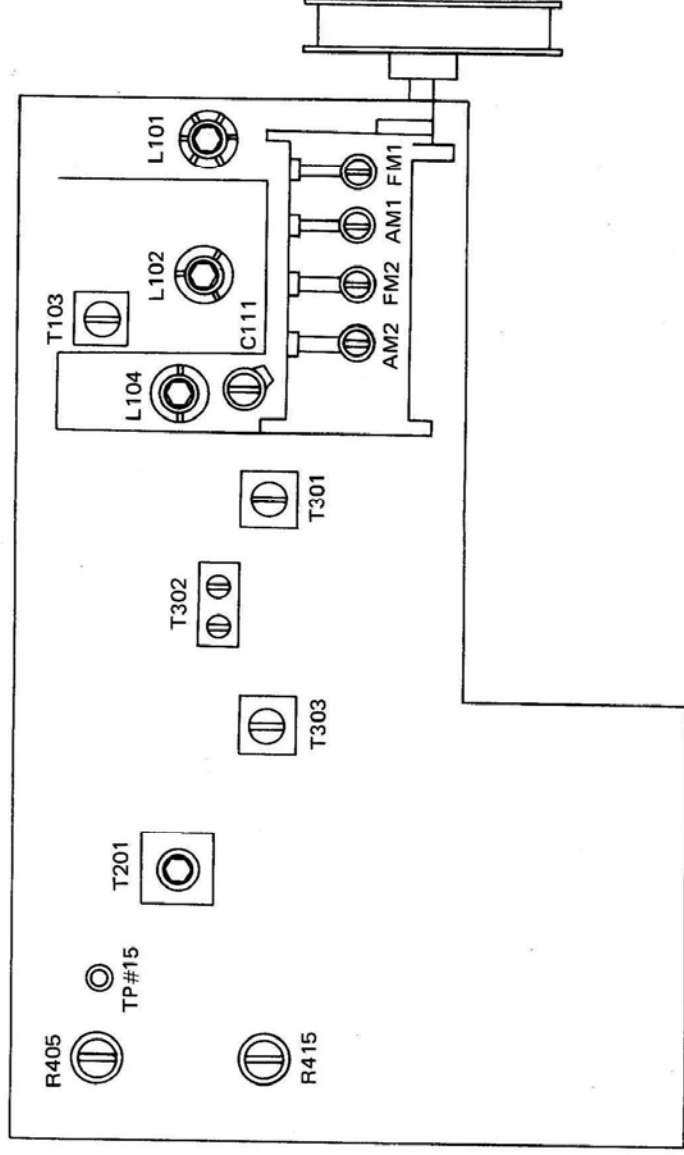

Fig. 2
For adjusting point, refer to Fig. 2.
- (1) With no RF signal applied to the receiver, adjust the lower core of T201 until the pointer of the tuning meter on the receiver indicates the center position of the meter scale.
- (2) Apply RF signal to the receiver and adjust the tuning knob so that the tuning meter indicates the center position.
- (3) Under this condition, adjust the upper core of T201 for minimum distortion.
- (4) Repeat the above steps (1) through (3) two or three times so that the distortion factor is most improved.
- Note: For adjusting point, refer to Fig. 2.
Note: For adjusting point, refer to Fig. 2.
For adjustment point, refer to Fig. 2.
- (1) With the receiver set to a high receiving frequency (variable capacitor in full open position), adjust T302 and T303 until the IF waveform becomes maximum.
- (2) If, in this case, the adjustment is difficult because of disturbing signal, the variable capacitor may be turned to facilitate the adjustment.
- (3) The waveform displayed on the alignment oscilloscope is as shown in Fig. 4. For adjusting positive, refer to Fig. 2.